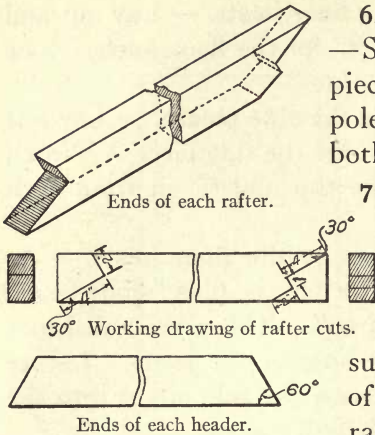

FIG. 106. — RAFTER AND HEADER.
5. **Laying out and sawing the rafters.** — The rafters slope at an angle of 60 degrees with the horizontal. The lower ends fit over the edge of the side pieces, and the ridgepole fits into the top. Figure 106 shows how the two ends of each rafter are cut. Lay out and saw.
8. Laying out and nailing headers and trimmers. — The ends of the headers are to be cut at an angle of 60 degrees, as shown in Fig. 106, so as to fit the rafters. There is one for each end of the cot. The two trimmers are placed at one end for the door.